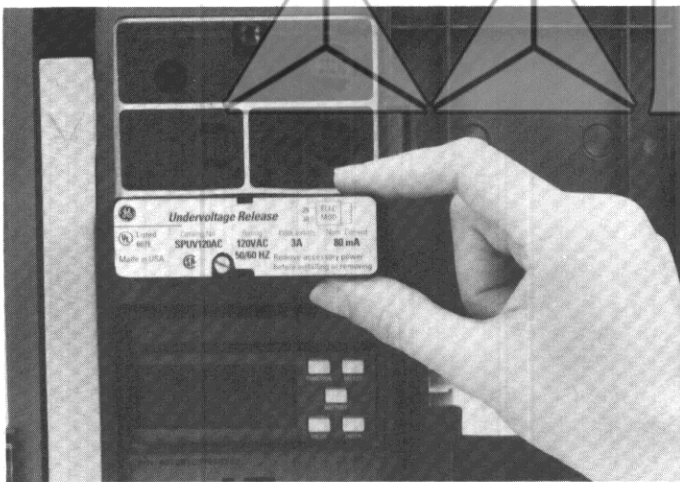

Figure 3. Inserting the Undervoltage Release into the accessory compartment.
3. Insert the UVR module into the proper slot, as illustrated in Figure 3. The UVR module is keyed for the correct slot in the accessory compartment. If the module cannot be fully seated in the compartment, check that the compartment position is correct.